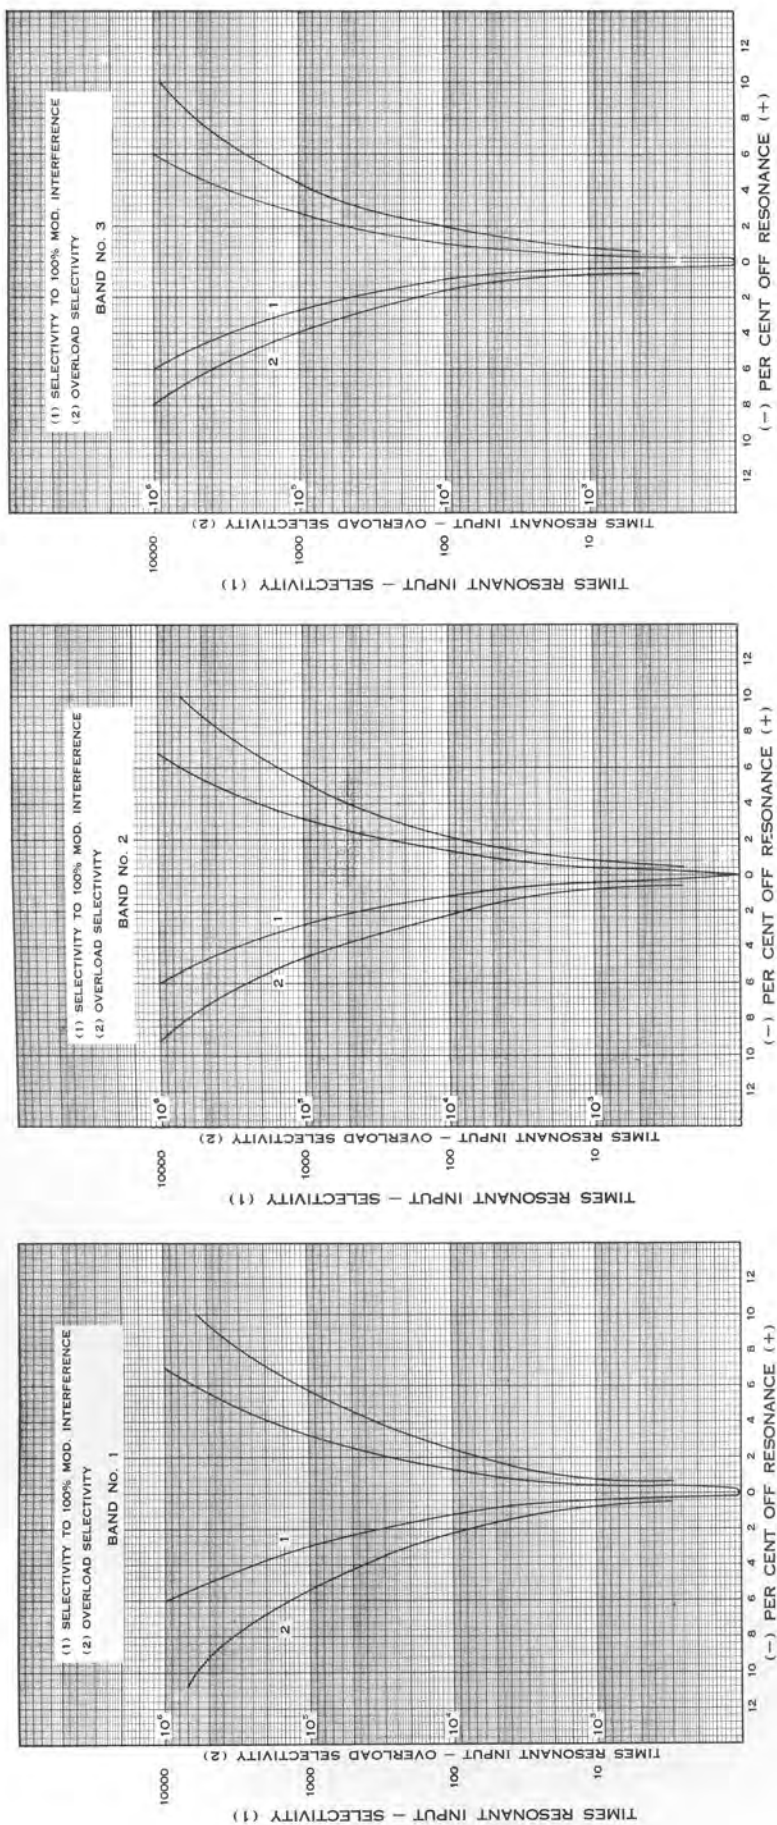

Figure 10—Average Selectivity and Overload Selectivity—Bands 1, 2 and 3
- 11.3-1 Figures 10, 11 and 12 show Selectivity and Overload ratios for each band. Curves (1) show the selectivity to 100% modulated interference when the receiver is operated for CW reception. They correspond closely with actual conditions at the middle of the band and represent an average for the band. This data is taken by first adjusting the receiver as for sensitivity measurement (par. 11.1) with 6 mw output at resonance. The signal is then modulated 30% and the frequency varied. The ratios of inputs off resonance (required to produce 6 mw output) to the normal (resonant) input are noted and the data corrected by multiplying by 3.33 to simulate 100% modulated interference.
- 11.3-2 Curves (2) of Figures 10, 11, and 12 show the overload selectivity characteristics for each band. These curves correspond closely with actual conditions at the middle of the band and represent an average for the band. This data is taken by first adjusting the receiver as for sensitivity measurement (par. 11.1). With the resonant signal being received, a CW interfering signal is applied at various frequencies off resonance and the ratios of inputs off resonance (required to reduce the resonant signal output by 3 db) to the normal (resonant) input are noted.